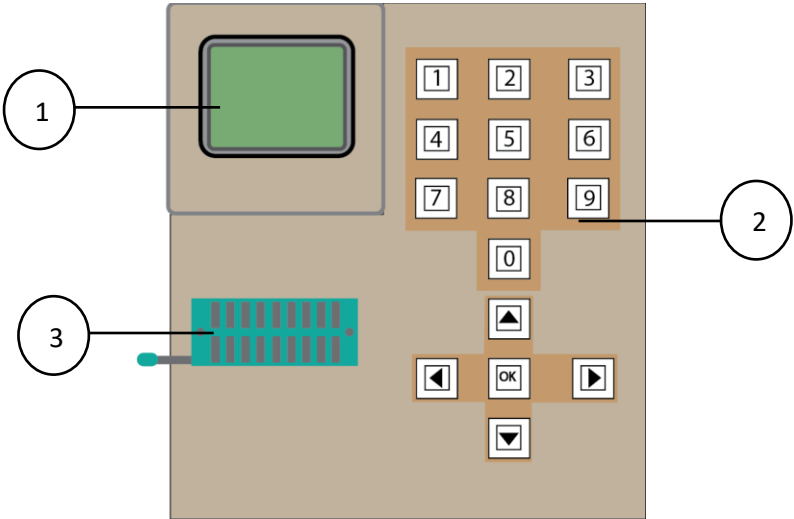

Figure 1
STEP 2: Power up the tester using the on/off button shown in figure 1 to turn on the device.